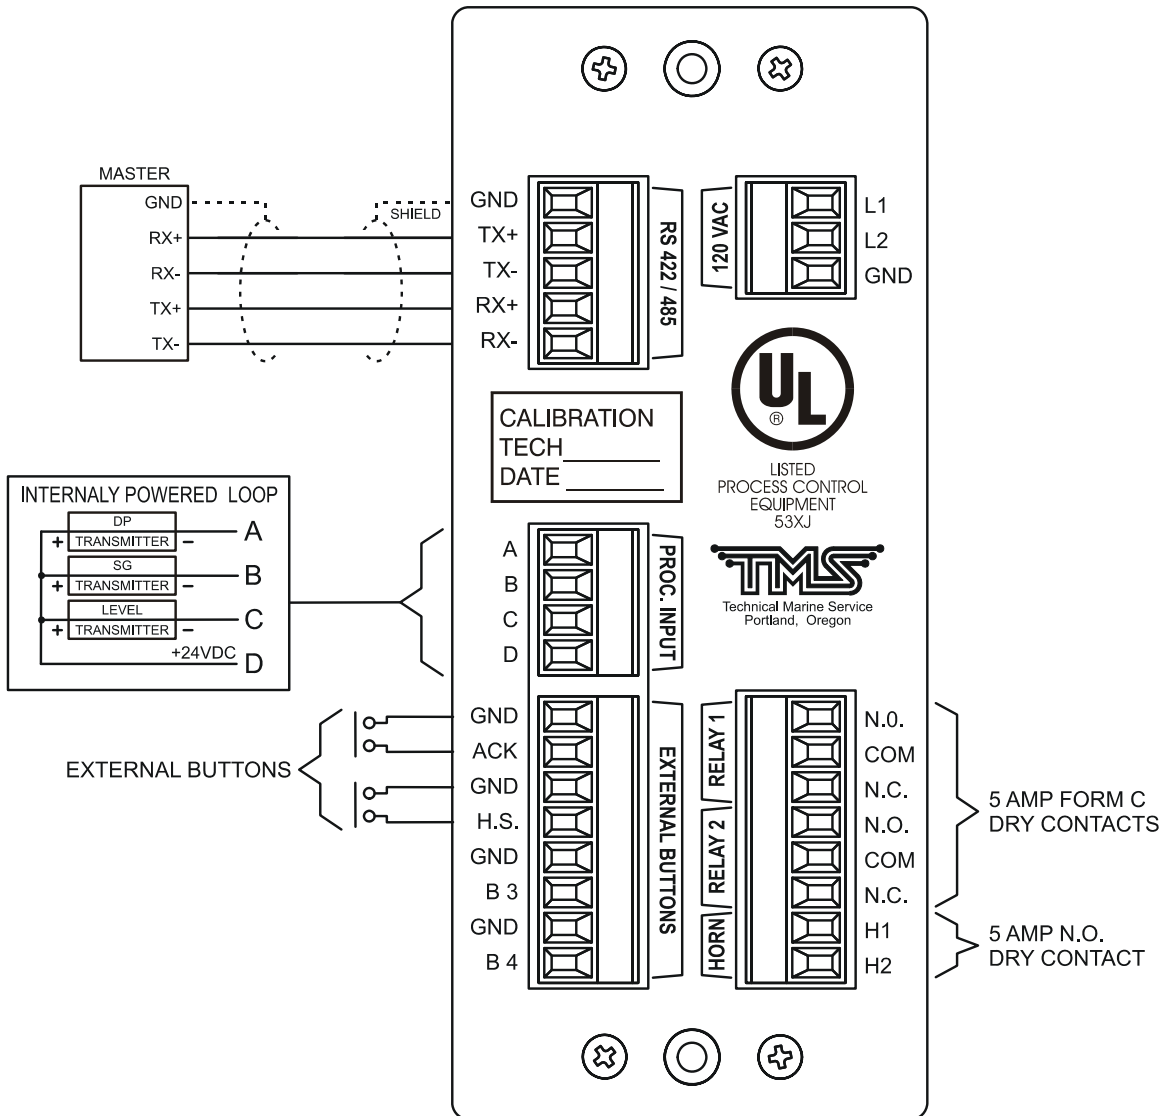

Figure 8 General Wiring
When wiring the LevelCom 101 refer to the wiring diagrams in Figure 8. This drawing shows the most common wiring for the machine. Normally a single
Electrical power connections are made via the three-point connector located at top right on the back. The terminals are labeled [L1] [L2] [GND]. Connect wires as shown in Figure 8 General Wiring.
There are three (3) analog 4 to 20 mADC inputs to the LevelCom 101. The terminals are labeled A, B, C, D, and GND. The LevelCom 101 can provide 24VDC to power the current loops, or the loops can be externally powered by 12 to 42 VDC. Refer to Figure 8 for the internally powered sensor wiring.
Figure 8 shows a 5 wire RS-422 connection. You may instead use a 3 wire RS-485 connection. Refer to Appendix A for wiring diagrams for these interfaces. Both of these interfaces allow multiple devices on the same cable. Simply wire each LevelCom 100 connector as shown in the drawings. The cable is chained from one LevelCom 101 to the next.